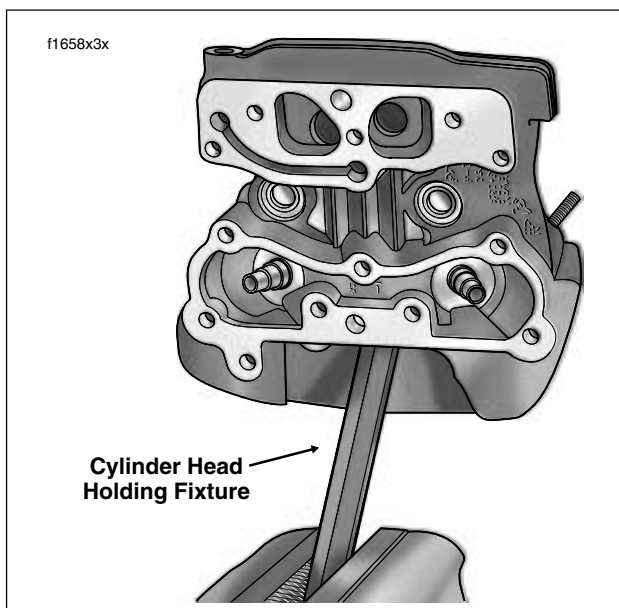

Figure 3-64. Install Cylinder Head Holding Fixture in Vise
- Clamp tool in vise at a 45 degree angle (or one that offers a comfortable working position). See Figure 3-64.